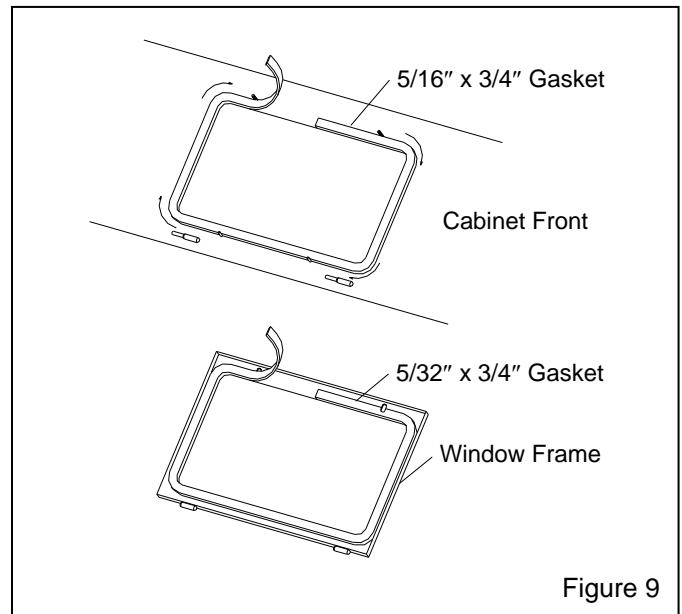

Figure 9
7.4 Window Gasket Replacement, Figure 9
7.4.4 Peel a short section of adhesive backing from the 5/16" thick strip gasket, and adhere the gasket to the center of the top edge of the window opening as shown in Figure 9. Peel additional backing as needed, and work the strip around the radius of each corner, pressing it tightly to bond. Trim the gasket to fit and compress the ends to seal.